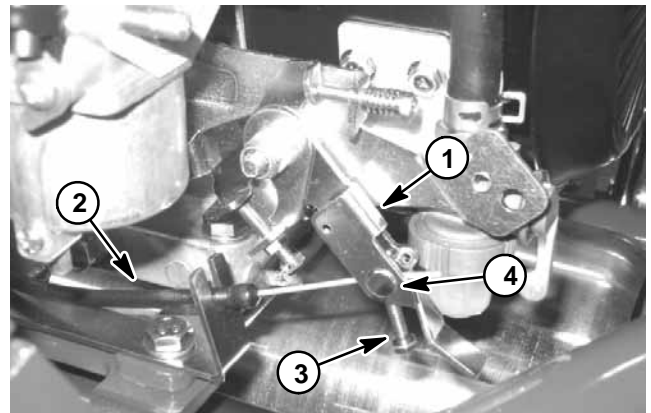

Figure 7
B. Loosen screw that secures throttle cable to throttle cable nut enough to slide the cable out of the nut (Fig. 7).
- B. Slide throttle cable through throttle cable nut (Fig. 7).